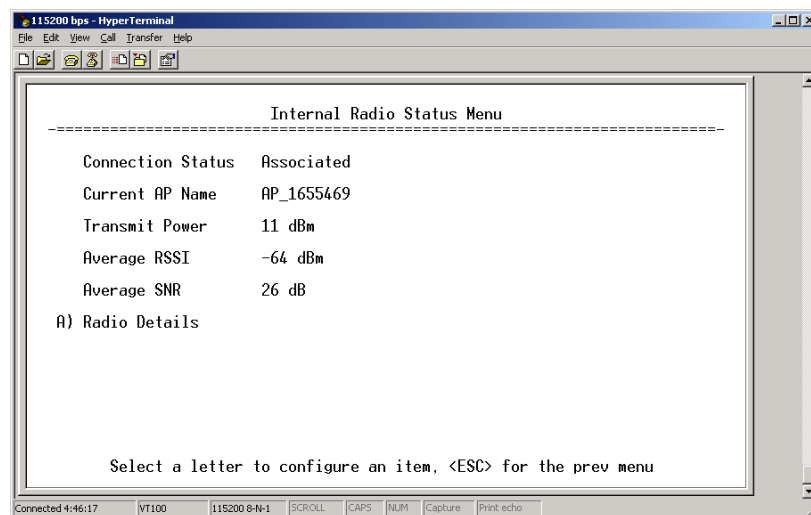

Figure 3-84. Internal Radio Status (Remote Only)
- ¥ **Internal Radio Status (Remote Only)** □ Shows connection status, RF parameters, and total FEC count for the unit. (See Figure 3-84 on Page 111 for details.)